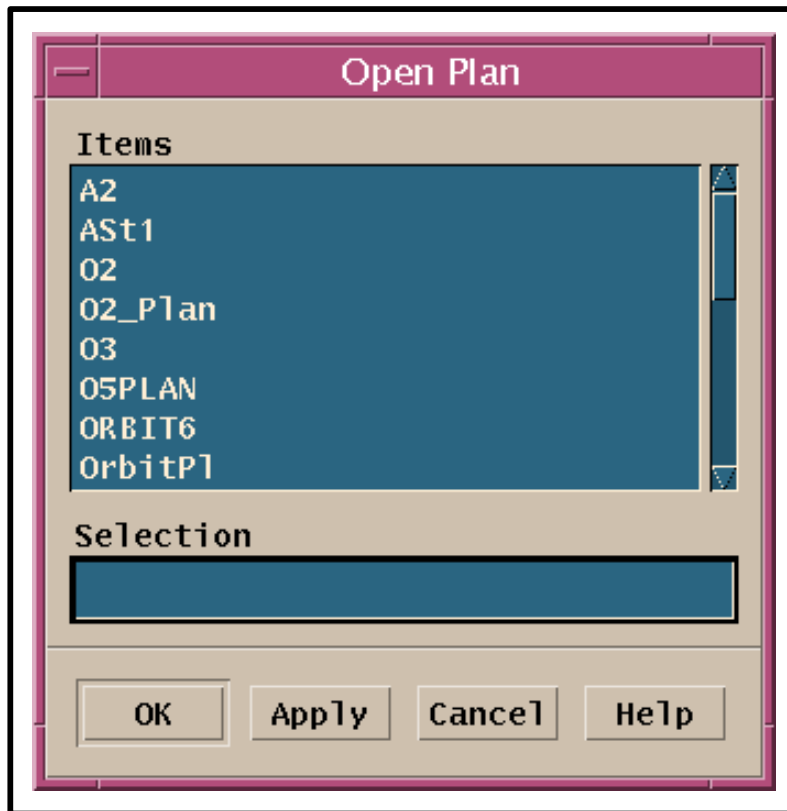

Figure 45. Open Plan Window
- The **Open Plan** window (Figure 45) is displayed.